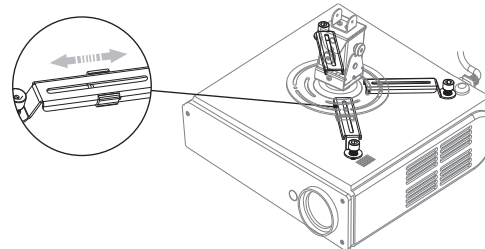

figure 13
2. If there are 3 holes, the installation arms (4-2) need to be taken apart from installation bracket firstly. Connect 3 installation arms (4-2) to the projector, and then connect the installation arms (4-2) to the installation base (4-5) However, the installation base needs to be the center of projector. Figure 13.